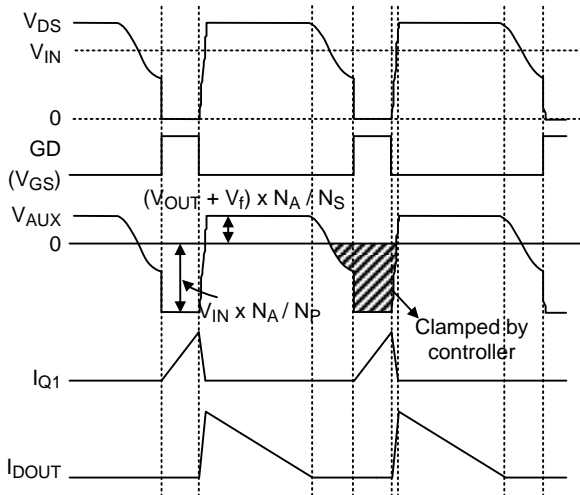

Figure 3. Key Waveforms of a Flyback Converter
RT7310 needs no shunt regulator and opto-coupler at the secondary side to achieve the output current regulation. Figure 3 shows several key waveforms of a conventional flyback converter in Quasi-Resonant (QR) mode, in which V_{AUX} is the voltage on the auxiliary winding of the transformer.